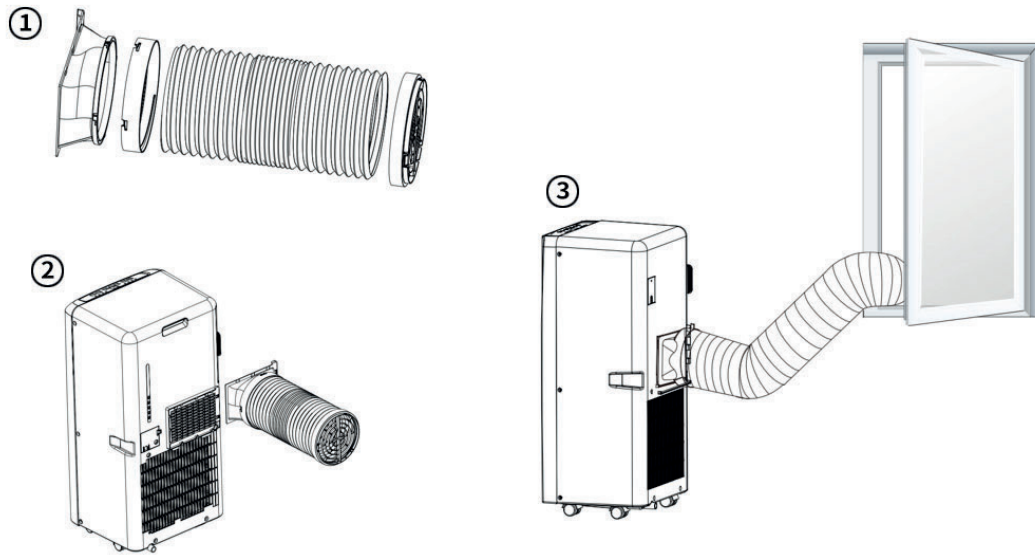

Fig. 4
3. Put the other end of the exhaust hose to the near wind owsill (see Fig.4).